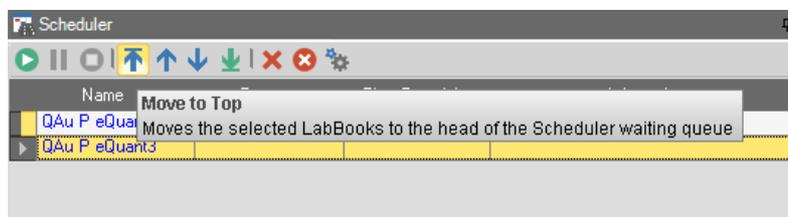

Figure 4-91. Moving LabBook in Scheduler queue
3. Click one of the arrow buttons to move the LabBook to the desired position in the queue, for example, to the top of the queue, see Figure 4-91.